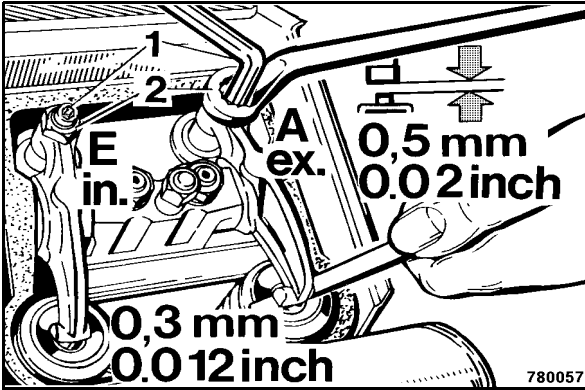

Fig. 168
- Loosen counter 2 (Fig. 168) and regulate the setscrew (1), until the feeler gauge can be inserted and pulled out with little resistance after retightening the counter nut.